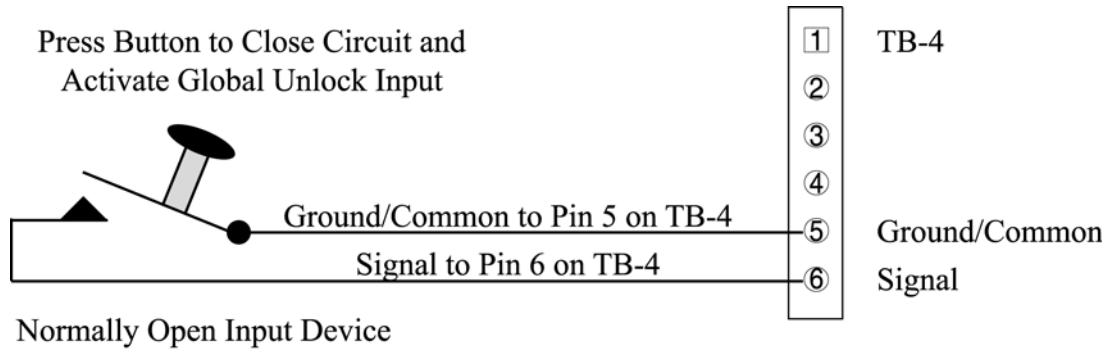
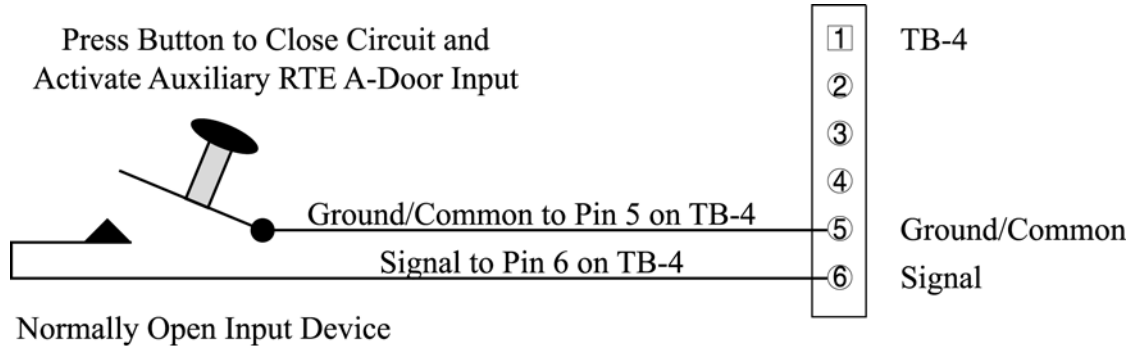

Figure 9: Global Unlock Input Connections
Figure 10: Auxiliary A-Door RTE Input Connections
- the master controller may be figured for either Global Unlock (see figure 9) or Auxiliary A-door RTE (see figure 10)
- the slave unit may be figured for Auxiliary A-door RTE (see Figure 10)